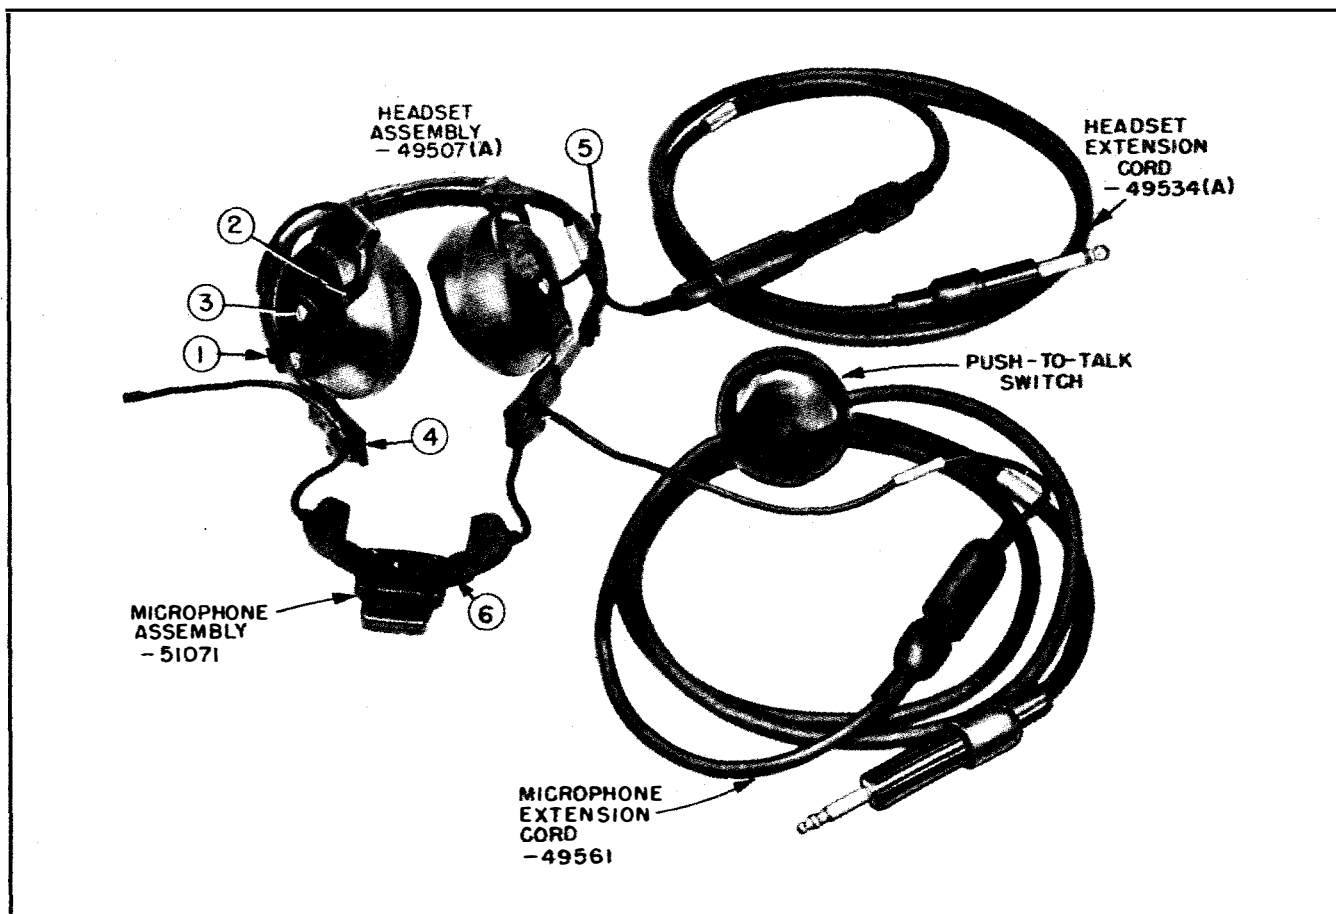

Figure 5-3.—Headset and Microphone Assemblies with Extension Cords.
The headphones may be removed from the headband and cord by pulling back the ear cushions so as to give access to the headphone terminal screws (item 2, figure 5-3). When the two terminal screws are loosened the cord tips may be withdrawn. Then by removing the screw and lockwasher (item 3, figure 5-3), the headphone and ear cushion are free from the headband. The headphone may now be removed from the ear cushion for replacement.
Cord and Headband Covering (Navy Type 49053-A/B) is removed from the headband by taking out both screws and lockwashers (item 1, figure 5-3) and then withdrawing the sliding members (item 4, figure 5-3) and stripping the cord and headband covering assembly from the metal headband (item 5, figure 5-3). The metal headband may now be inserted in a new cord and covering assembly. Reassemble in reverse order, the screws (item 1, figure 5-3) being threaded into the loose sleeve.
When replacing either the microphone or the face harness assembly, make sure that the contact surfaces on the back of the unit and the contact springs in the bracket of the face harness assembly (item 6, figure 5-3) are free from foreign material. The protective wax-like coating normally present on the contact springs and terminals provides moisture protection and should not be wiped off.